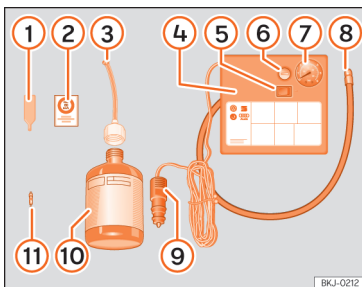

Fig. 192 Standard display: contents of the anti-puncture kit.
The anti-puncture kit is located underneath the floor covering in the luggage compartment. Includes the following components >>> **Fig. 192**:
- Unscrew the tyre valve cap and insert. Use the device >>> **Fig. 192** ① to remove the valve cap. Place it on a clean surface.
- Shake the tyre sealant bottle vigorously >>> **Fig. 192** ⑩.
- Screw the tyre inflation hose >>> **Fig. 192** ③ into the tyre sealant bottle. The bottle's seal will break automatically.
- Remove the filler cap >>> **Fig. 192** ③ and screw the open end of the tube into the tyre valve.
- Replace the howitzer with the device >>> **Fig. 192** ① onto the tyre valve.
- Screw the tyre inflation tube of the compressor >>> **Fig. 192** ⑧ on the tyre valve.
- Check that the air evacuation screw is closed >>> **Fig. 192** ⑥.
- Attach the connector >>> **Fig. 192** ⑨ to the vehicle's 12 volt power outlet >>> **page 171**.
- Switch on the air compressor with ON/OFF switch >>> **Fig. 192** ⑤.
- Attach the sticker >>> Fig. 192 (2) to the instrument panel display, within the driver's field of vision.
Screw in the inflator tube >>> Fig. 192 (8) again and check the pressure on the gauge (7).